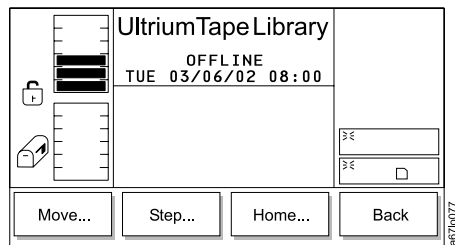

Figure 309. Picker Submenu
5. Press the button below the **Picker** softkey. The Picker Submenu displays (see Figure 309).